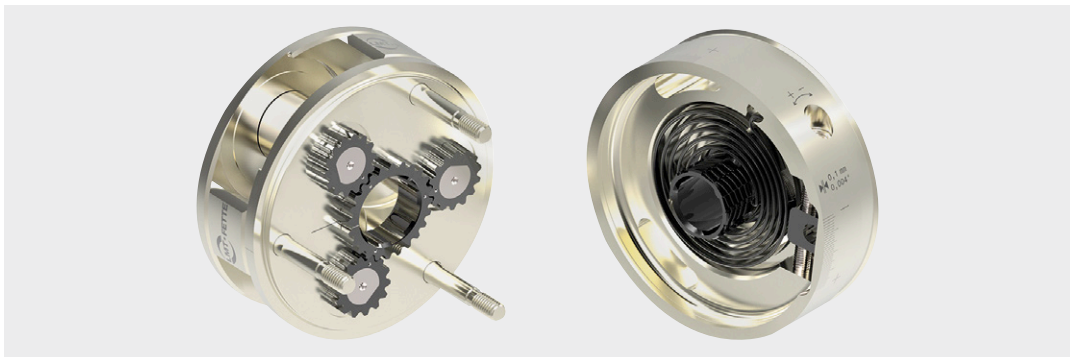

Fig. 17: *Rolling system* housing and roll cage separated
5. Grasp the *rolling system* housing and pull the *rolling system* housing away from the roll cage so that subassemblies are arranged as shown in Fig. 17 *Rolling system* housing and roll cage separated.